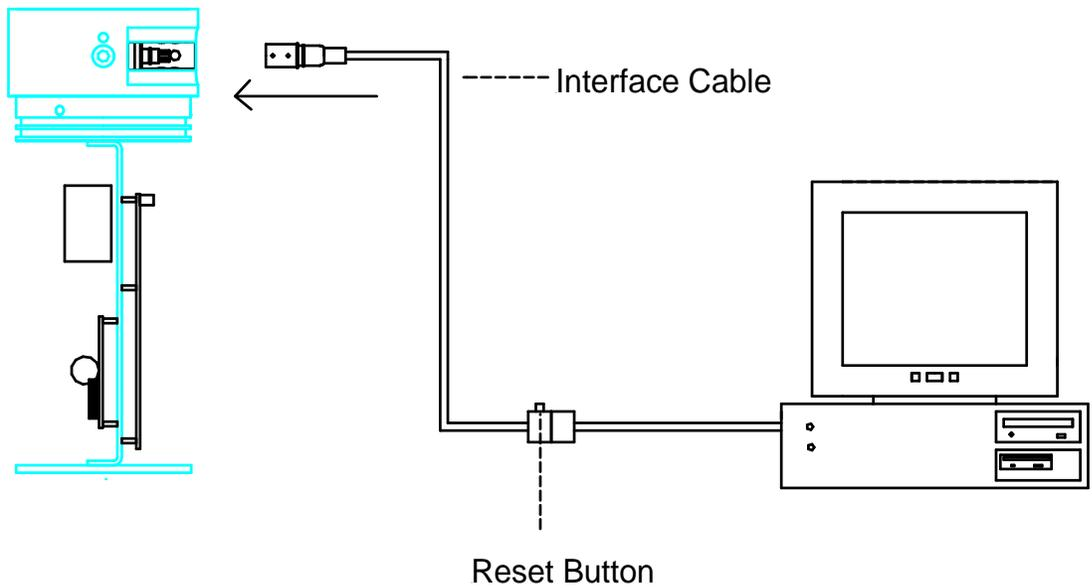

Figure 9
- Plug the 25 pin "D" connector into the appropriate serial port on the computer. As seen in Figure 9.